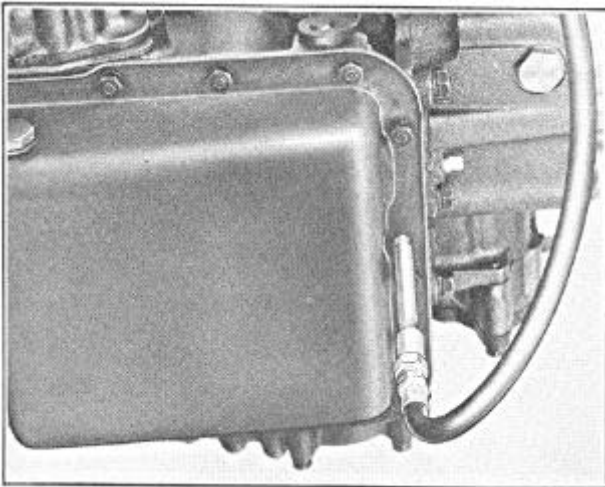

FIGURE 154
1. With the engine stopped, remove the Allen head pipe plug from the transmission oil pan rear flange, Figure 154, and install the pressure gauge fitting at this point.